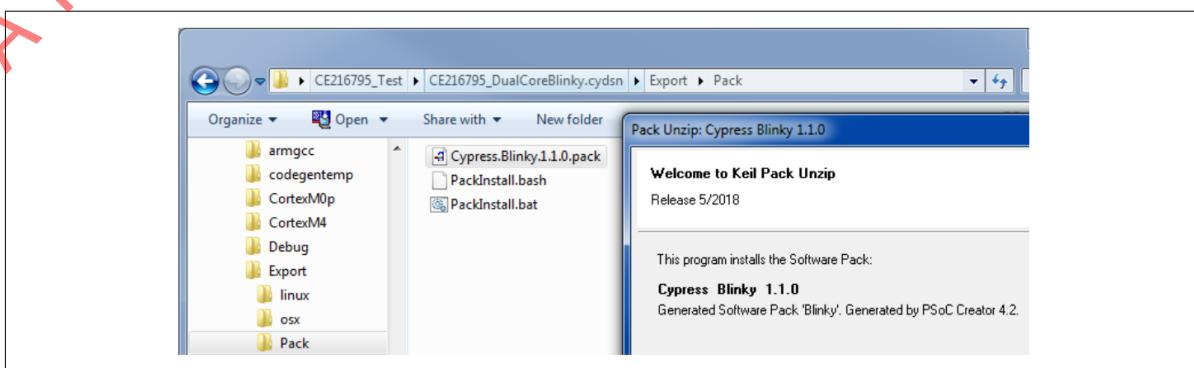
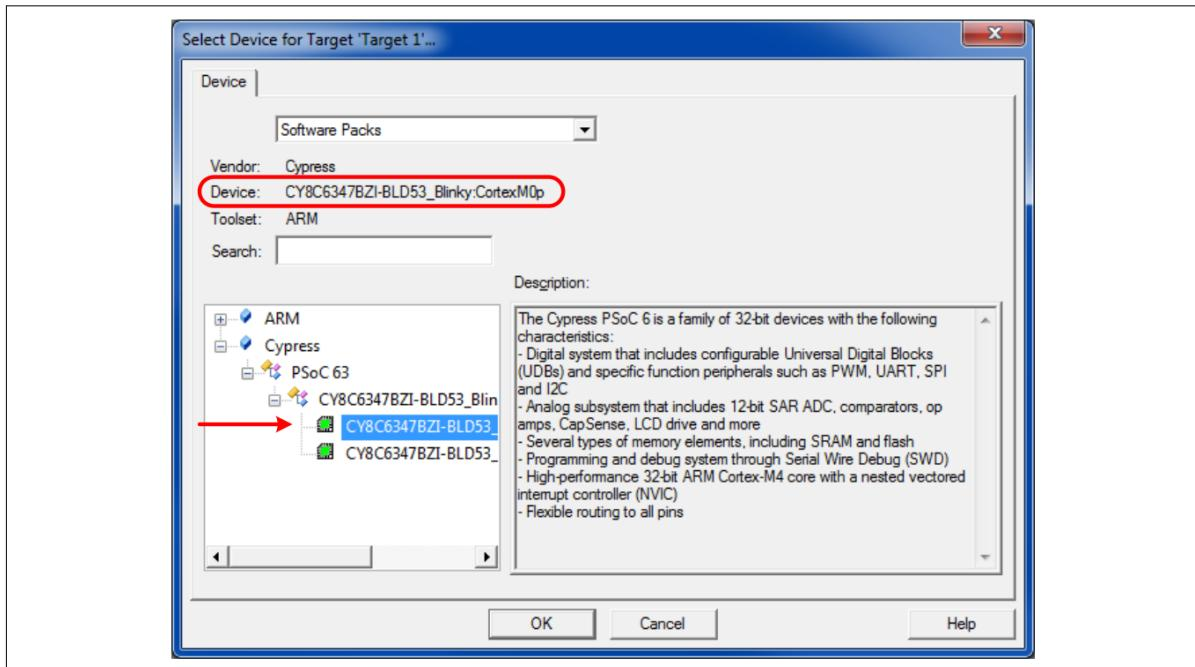

Figure 415 Install µVision pack from PSoC™ Creator project
Figure 418 Select CM0+ as the project device
For µVision, after the PSoC™ Creator project is built, find the corresponding .pack file in the folder Export \ Pack. Double-click the file to install it as a µVision pack, as Figure 415 shows.
After you click **Save**, a **Select Device for Target 'Target 1'...** dialog box is displayed. The two PSoC™ 6 MCU CPUs that were defined in the previously installed pack (Figure 415) are displayed. Select the CM0+ CPU, as Figure 418 shows. Click **OK**.
- Select the CM4 CPU from the previously installed pack; see Figure 418